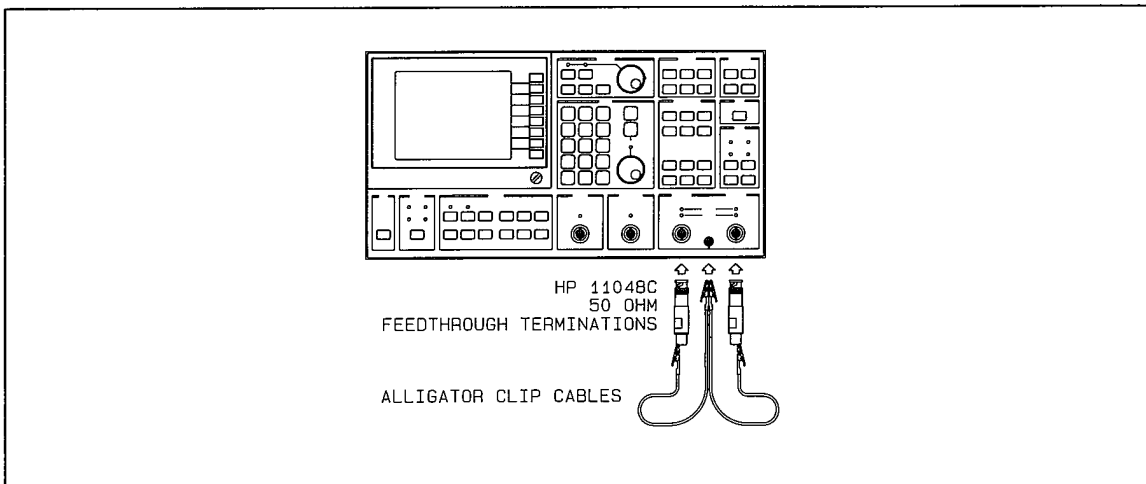

Figure 2-25 Noise and Spurious Signal Level Test Setup
- A. Connect the test instruments as shown in figure 2-25. Keep the leads from the feedthrough terminations to chassis ground as short as possible.